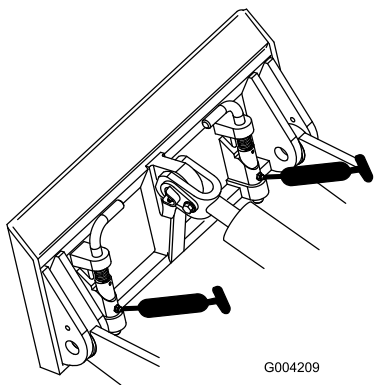

Figure 19
4. Connect a grease gun to each fitting (Figure 18 and Figure 19).